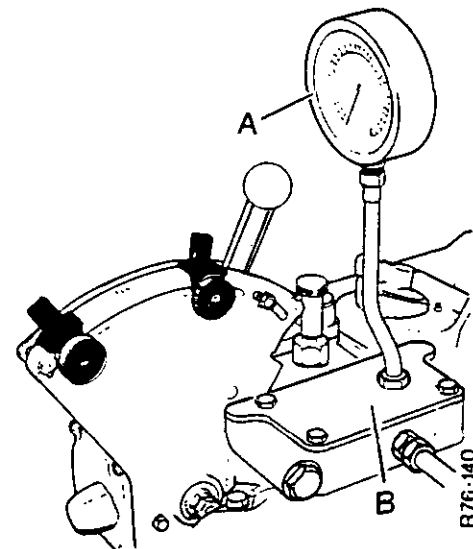

FIGURE 185. CHECKING THE PRESSURE OF THE OIL FROM THE PUMP
5. Check the pressure of the oil from the pump. Connect a pressure gauge 0-250 kg/cm² to the outlet port of a live take-off port. Move its operating lever from the neutral (centre) position. Use an adaptor plate on top of the distribution block if a live take-off valve is not fitted. Connect the pressure gauge to the adaptor (see Figure 185). Start the engine. The reading on the pressure gauge must be more than 140 kg/cm². If the reading is less than 140 kg/cm² one or more of the following will be the cause: